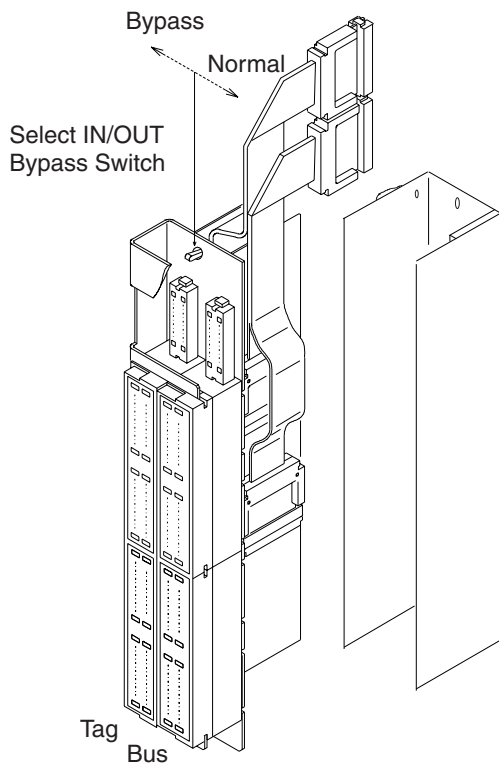

Figure 4-122. Tailgate
6. At the tailgate, switch all the channel select in/out bypass switches to the **BYPASS** position. Refer to Figure 4-122 on page 4-132.